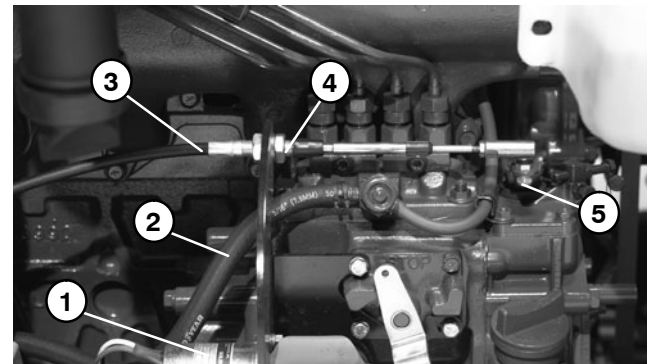

Figure 11
8. Disconnect fuel line from injection pump (Fig. 11).
9. Disconnect throttle cable from the speed control lever by removing the washer and lock nut. Loosen jam nut and take cable from mounting bracket (Fig. 11).
13. Disconnect two (2) wires from neutral switch on hydraulic traction pump.
8. Connect throttle cable to the speed control lever with washer and lock nut. Install cable to mounting bracket (Fig. 11). Adjust throttle cable.
9. Connect fuel line to the injection pump (Fig. 11).